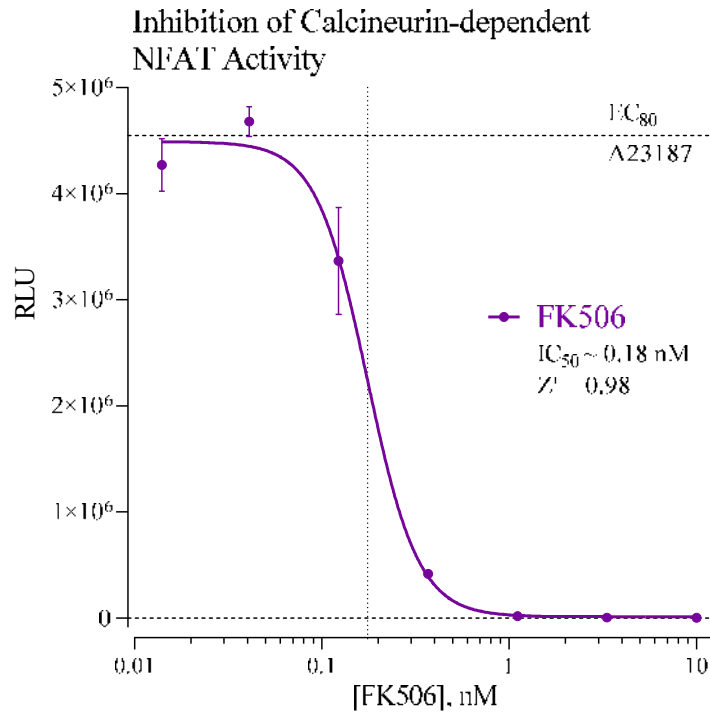

Figure 3. Calcineurin / NFAT Pathway Inhibition Assay.
- *Optional*: Inhibitor reference compound (see Figure 3).